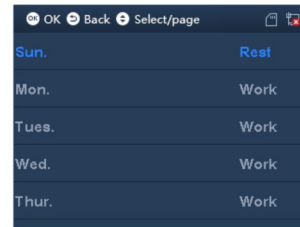

Figure 2-14
Select Weekly, click ③. See Figure 2-14.